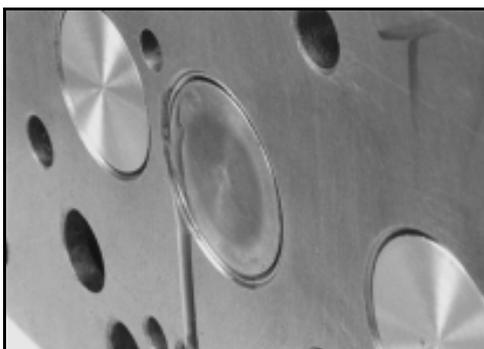

Fig.9-48
- Check if the liquid leaks out between the valve face and seat. Fig.9-48